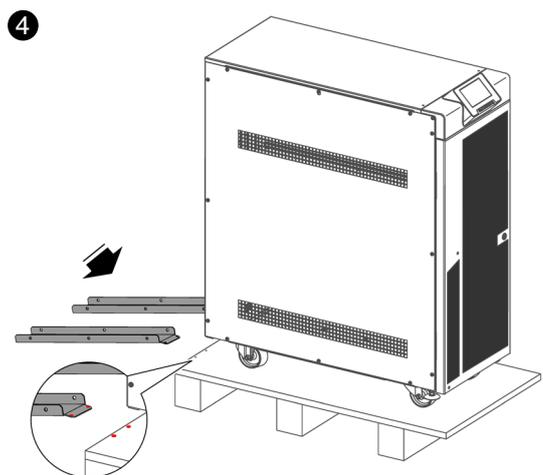

Fig. 25. Mounting the guides on the pallet.
- 4 Assemble the guides on the pallet as shown in Fig. 25.